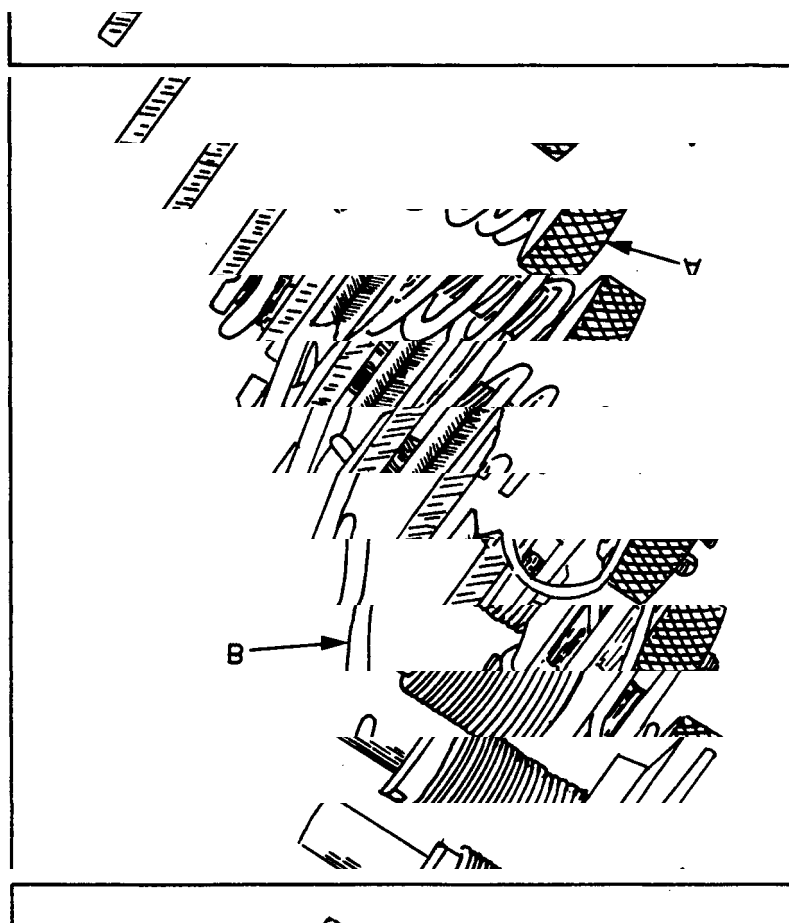

Figure 4-12.—Upper thread unit.
(3) Pull the thread controller assembly away from the machine.
c. Bend the thread releasing lever (figure 4-12 [B]) away from the thread controller assembly to increase the amount of the release and toward the plate to decrease the tension as needed.
The thread tension will be the last adjustment required. In most cases, you can make any adjustment required by turning the thumb nut (figure 4-12 [A]) on the needle thread tension disc.